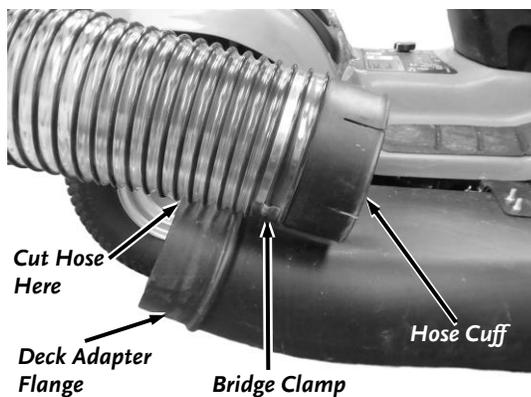

Figure 69
- a. Remove the Hose Cuff from the Deck Adapter, position it next to the Deck Adapter flange and pull carefully until the Hose is no longer touching the ground (**Figure 69**).